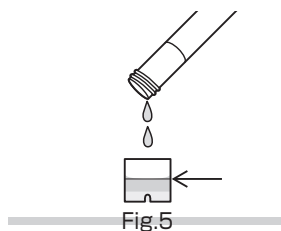

Fig.5
7. Gently return the solution in the tube to the Cell, set it again in the cell box. (Fig.5)
5. Take out the Cell, discard the pure water, and pour the whole amount of the prepared solution to the same Cell. (Fig.5)